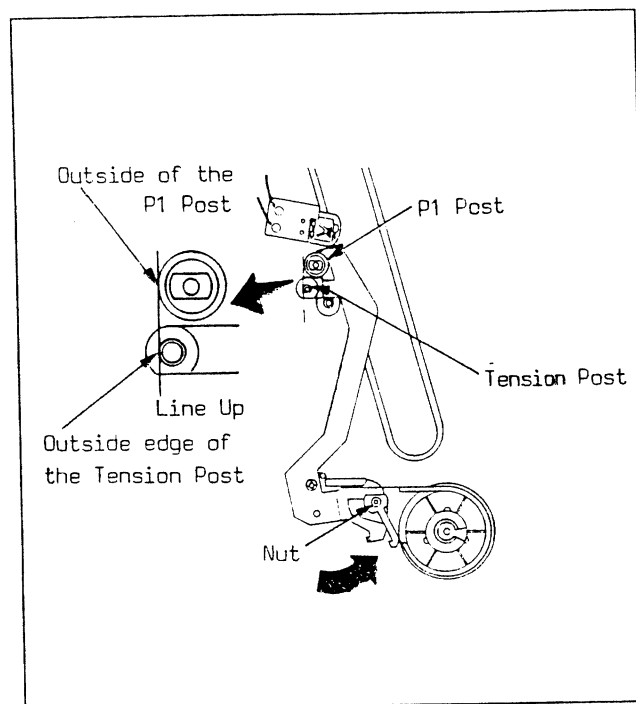

Fig. M7
5. Insert the Hex. Wrench (2mm) into the nut on the Tension Band Fastener and adjust it (only counter-clockwise) as indicated by the arrow so that the outside edge of the Tension Post lines up with the outside of the P1 Post as shown in Fig. M7 (as viewed looking down the edge of the Cassette Side Plate (L) Unit).